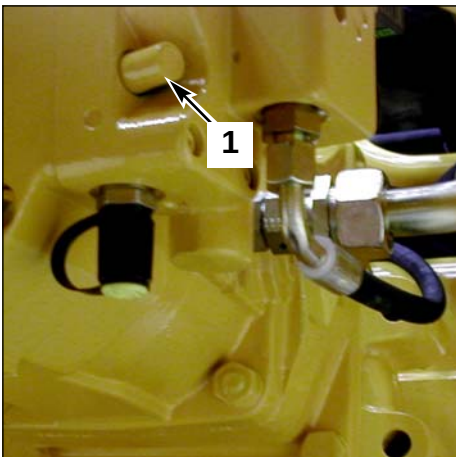

Fig. 2 Transfer movement engine
- 4- Turn the screw (1 fig. 2) clockwise to slow down the sharp fall in pressure in the transfer movement engine, or in the opposite direction to speed it up.